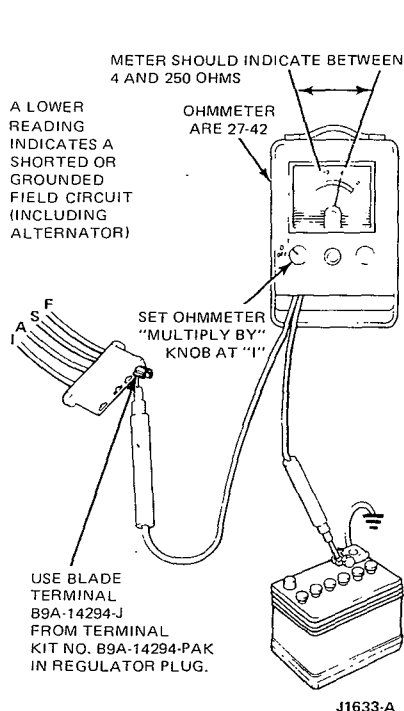

FIG. 6 Field Circuit Test
8. The field circuit should be checked with the regulator wiring plug disconnected and an ohmmeter connected from the F terminal of the regulator wiring plug to the battery ground. The ohmmeter should indicate between 4 and 250 ohms (Figure 6).